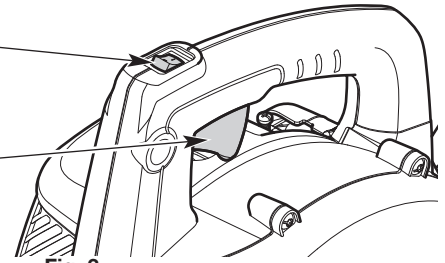

Fig. 3
NOTE: There is no need to turn the unit on. The On/Off switch is in the **On (I)** position at all times (Fig. 3).
4. Squeeze and hold the throttle control (Fig. 3).
2. Press and hold the On/Off switch in the **Off (O)** position until the engine comes to a complete stop (Fig. 3).